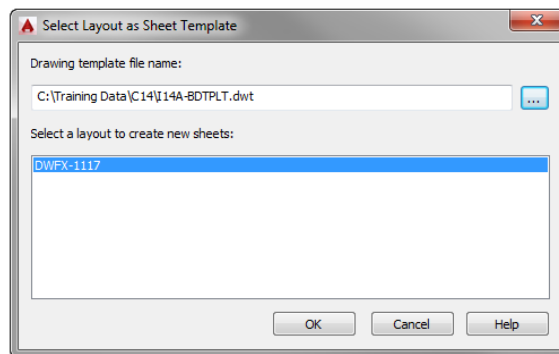

FIGURE 14.33 Selecting the sheet-creation layout template
Once you select the template file, the Select Layout As Sheet Template dialog box shown in Figure 14.33 opens.
13. Select the PDF-1117 (PDF-A3) layout from the list, and then click OK to exit the dialog box (see Figure 14.33).